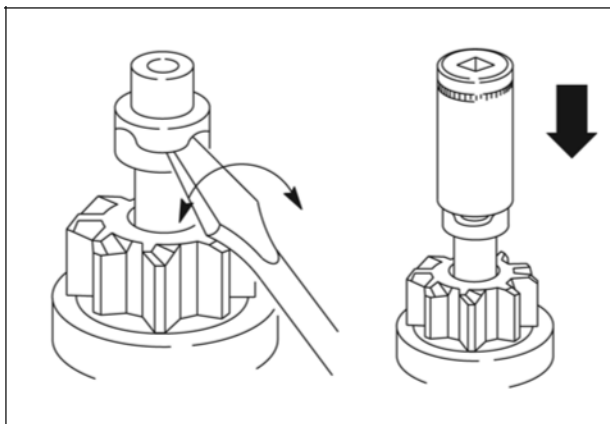

Figure 52
9. Remove pinion gear and clutch assembly (A, Figure 52).